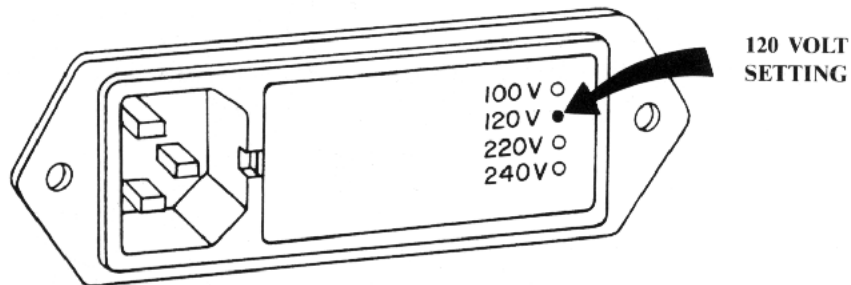

FIGURE 3-3 EXAMPLE 120 VOLT SETTING
3.6.2 The cover shows four possible voltage settings (100V, 120V, 220V or 240V). Notice that a pin will be in one of these holes, indication the present voltage setting for the 521. If this setting does not match the voltage available at your site, then it must be changed before powering on the 521. Figure 3-3 shows an example setting for 120 Vac operation.